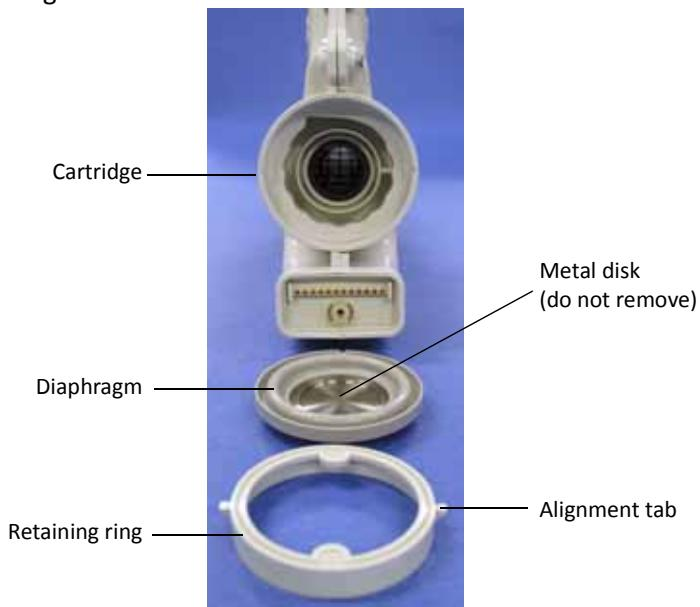

Figure 10-2: eSYS cartridge disassembly
- 2 Remove the diaphragm from the eSYS cartridge. Do not remove the metal disk from the diaphragm. The diaphragm and disk remain assembled during cleaning, disinfection and sterilization. See Figure 10-2 below.